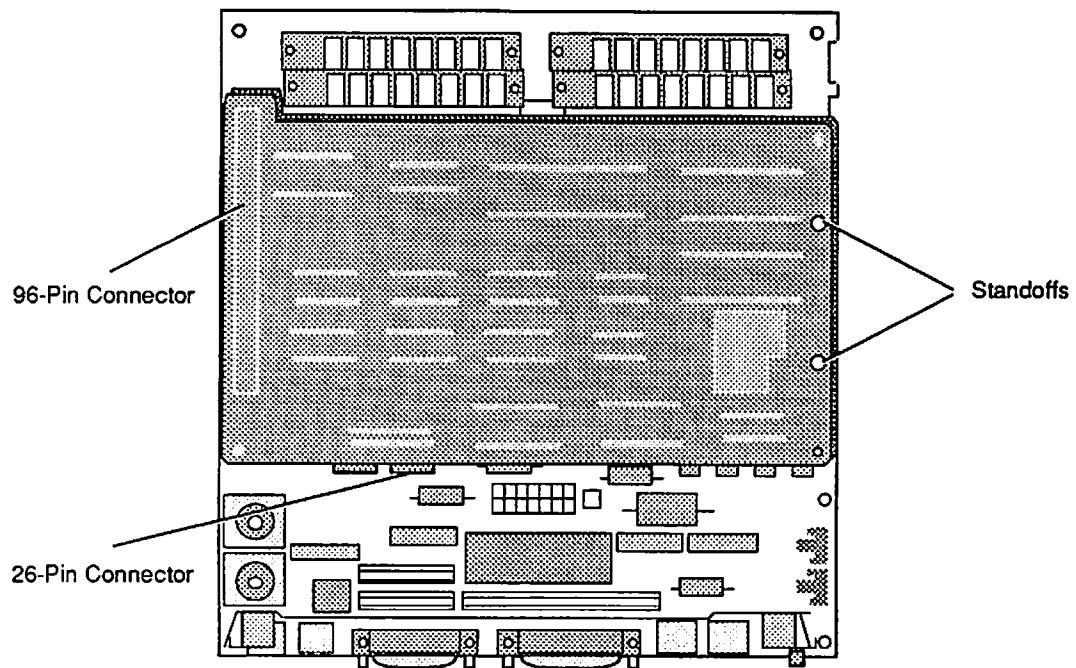
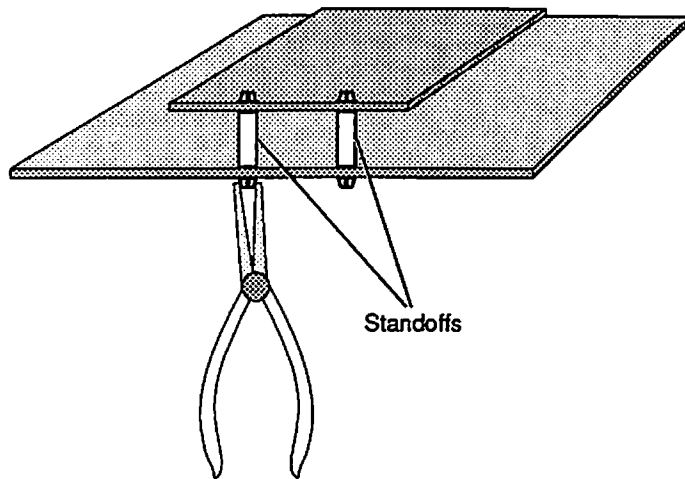

Figure 5-9 Removing the Card
Figure 5-10 Removing the Standoffs
5. **Figure 5-9.** Unplug the SE-Bus PC Card cable from the 26-pin connector on the SE-Bus PC Card.
6. **Figure 5-9.** Working from the bottom side of the logic board, squeeze the plastic standoff ends with a pair of pliers, and push the standoffs out of the holes (**Figure 5-10**).
7. **Figure 5-9.** Unplug and remove the card from the 96-pin Euro-DIN connector on the main logic board.
8. **Figure 5-10.** Use a pair of pliers to remove the plastic standoffs from the card.